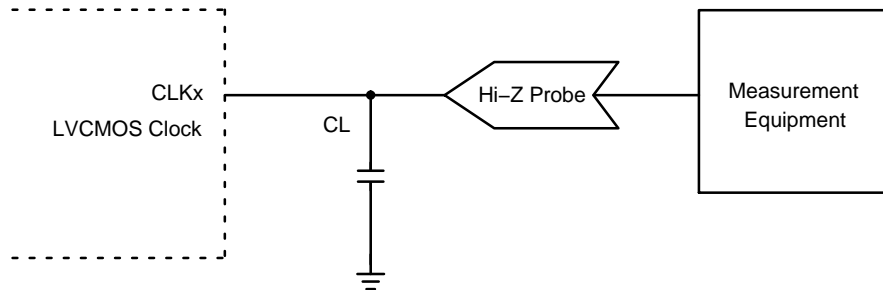

Figure 5. LVC MOS Parameter Measurement
4. Measurement taken with single ended clock outputs terminated with test load capacitance of 5 pF and 15 pF. See Figure 5. Specification for LVTTTL are valid for the $V_{DD} 3.3V$ only.
6. Measurement taken with single ended clock outputs terminated with test load capacitance of 5 pF and 15 pF. See Figure 5. Specification for LVTTTL are valid for the $V_{DD} 3.3\text{ V}$ only.